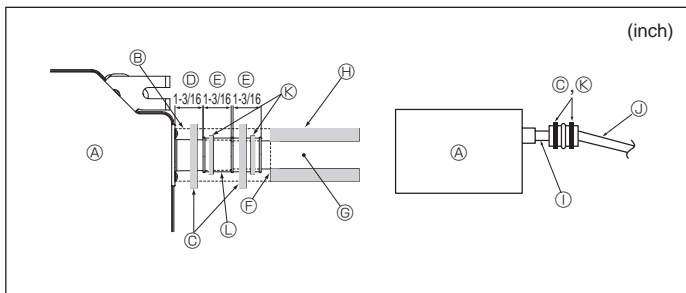

Fig. 3-2
1. Connect the drain socket (supplied with the unit) to the drain port. (Fig. 3-2) (Affix the tube using PVC adhesive then secure it with a band.)